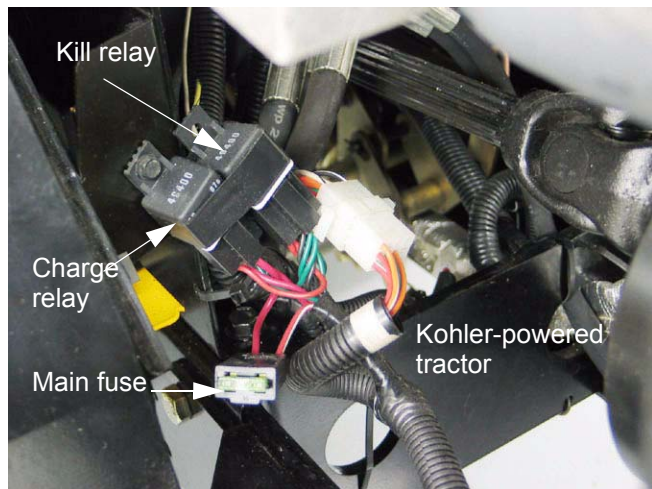

**Figure 2.5**
- 2.5. Kawasaki powered tractors will have a single relay and main fuse (30A) at the right rear corner of the engine bay. See Figure 2.5.